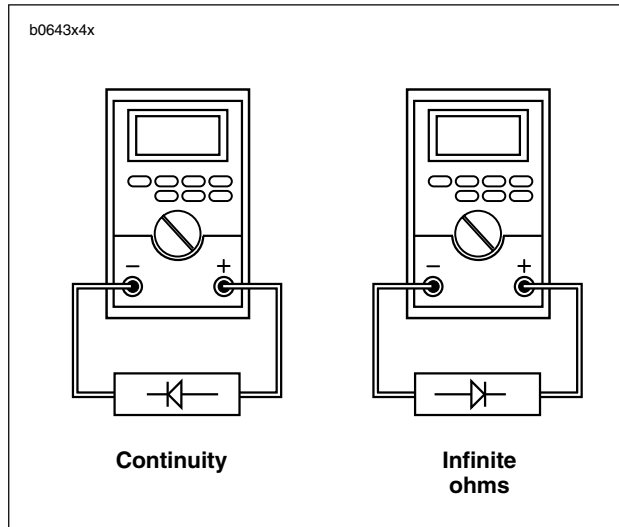

Figure 7-31. Ohmmeter Diode Test
1. Check diode with an ohmmeter as shown in Figure 7-31.